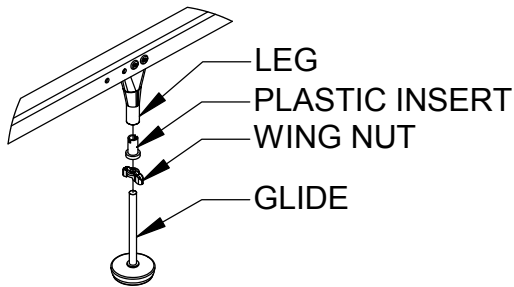

Figure 1
Step 1: Tap PLASTIC INSERTS into LEGS of bed frame. With flat surface up, screw WING NUTS onto GLIDES. Thread GLIDES into the PLASTIC INSERTS. See Figure 1.